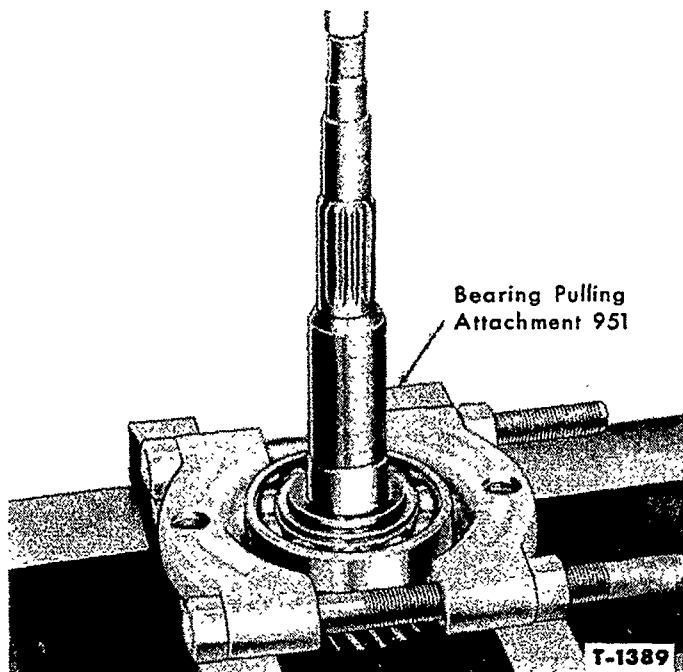

Figure 40—Removing Clutch Shaft Bearing
1. Remove the four bolts (1) and lock washers that retain the shifter cap assembly to the gear case and lift the shifter cap (2) and gasket (12) from the case (48).
2. Remove the two snap rings (7) from the selector shaft (4) and move the selector forks (6) on the shaft to permit removal of the two Woodruff keys (5).
3. Slide the selector shaft out of the selector cap and remove the two selector forks from the cap. Remove the two "O" rings (3) from the selector shaft.
4. Remove the snap ring (23) that retains the clutch shaft assembly in the support assembly. Tap the front end of the shaft with a rubber mallet to remove the shaft assembly from the support housing.
5. Remove the clutch shaft snap ring (35) that retains the clutch shaft ball bearing (34) on the clutch shaft (24).
6. With Bearing Pulling Attachment 951, and arbor press, as shown in Figure 40, remove the clutch shaft ball bearing from the clutch shaft.